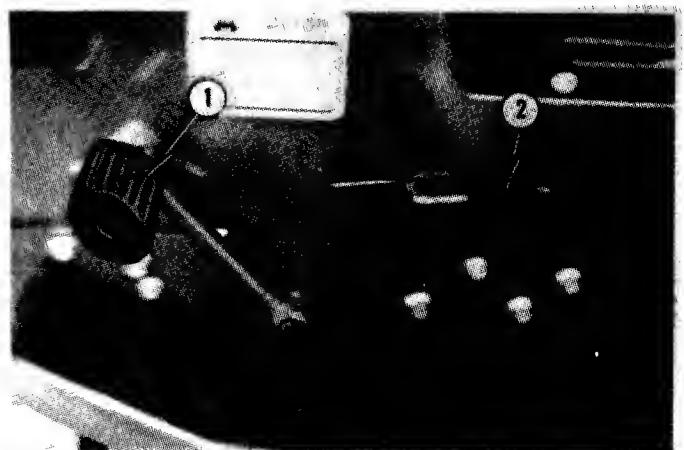
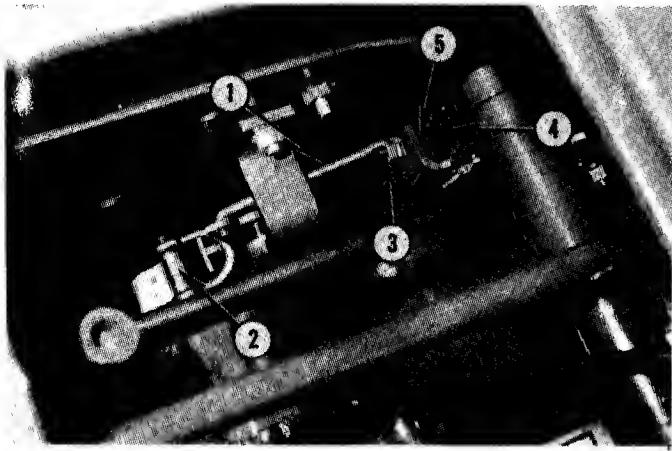

FIG. 3.16--1600 CLUTCH/BRAKE PEDAL RELEASED
FIG. 3.17--I600 BRAKE ADJUSTMENT POINTS
3. With clutch-brake pedal, No. 1, Fig. 3.16, in up position, increase clearance between bolt head, No. 5, Fig. 3.17, and brake arm, No. 4. Repeat Step 1 and readjust if necessary. Tighten jam nut, No. 3.